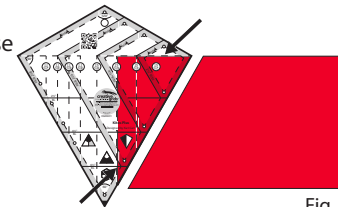

Fig. 5
1. Square up the left edge of the fabric. Place the ruler on the fabric, lining up the Side Triangle (ST) lines with the left edge of the fabric - in this case 6½" and the Triangle Base line on the top edge of the strip. Cut along the right angled edge. Fig. 5